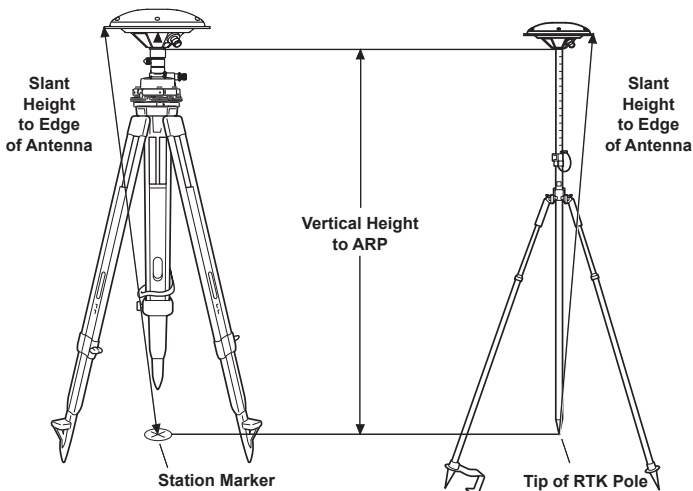

Figure 2-10. Measure Antenna Height
- For the base station antenna, measure the vertical height between the observation point marker and the antenna reference point (ARP) or the slant height between the observation point marker and the antenna height measuring position (Figure 2-10).